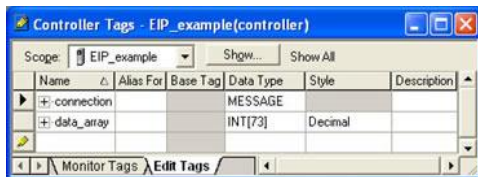

Figure 52: Create New Tags
- b) The "Controller Tags" window appears. Refer to Figure 52.